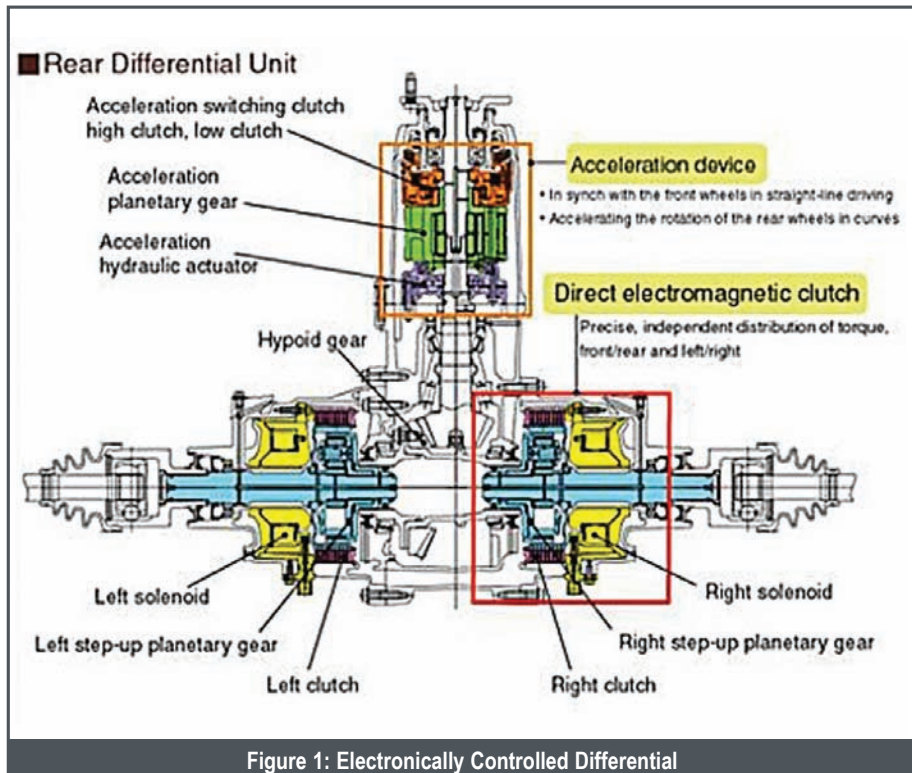

Figure 1: Electronically Controlled Differential
- **Electronically Controlled Differential:** The electronically controlled rear differential (figure 1) consists of a conventional hypoid ring and gearset, an acceleration device (on RL models only), and a direct, electromagnetically controlled clutch system. This clutch system consists of a set of coils, planetary gearsets, and electromagnetically controlled multiplate clutches. The electronically controlled differential is controlled by the SH-AWD control module, and, unlike any car today, is capable of diverting anywhere from 0%–100% of the driving torque to either rear wheel.